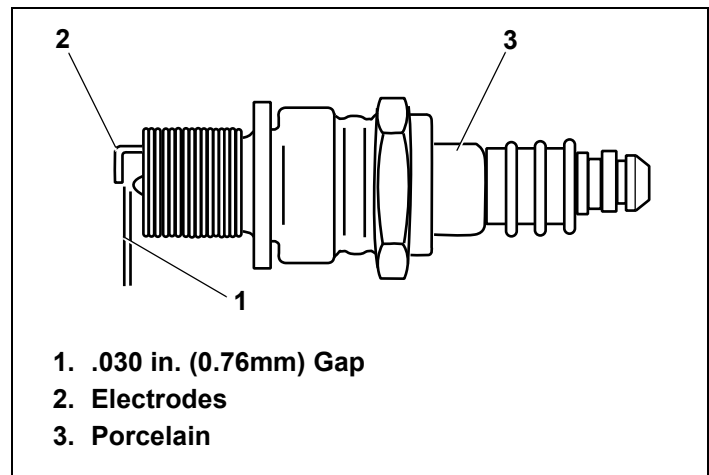

Figure 46. Resistor Spark Plug
4. Check electrode gap with wire feeler gauge and set gap to—.030 in. (0.76mm) if necessary. See Figure 46.